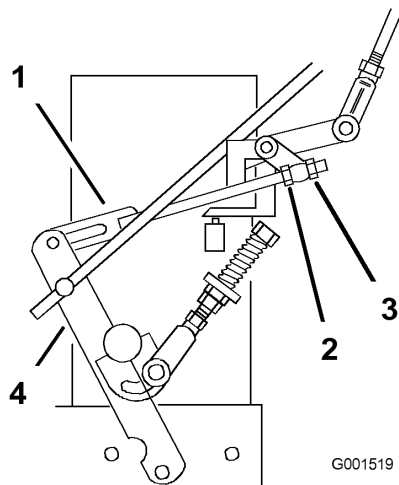

Figure 37
- Loosen the front adjusting nut on left hydro control linkage as shown in Figure 37.
- Turn the left rear adjusting nut counter-clockwise until wheel rotates forward (Figure 37).
- Turn the rear adjusting nut clockwise 1/4 of a turn at a time. Then move the speed control lever forward and back to neutral. Repeat this until left wheel stops rotating forward (Figure 37).